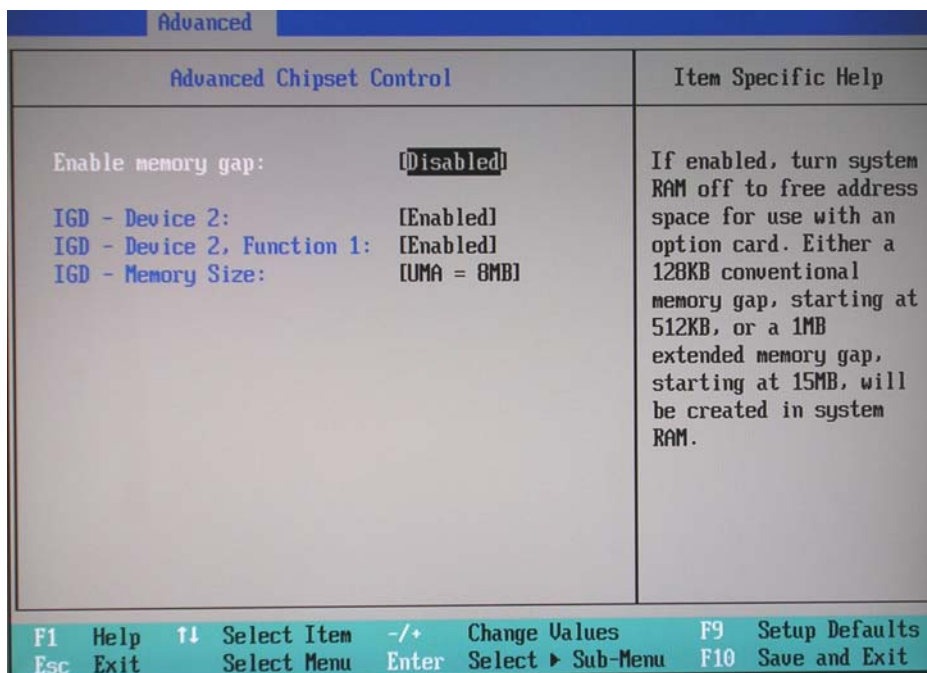

Figure 8-57 BIOS Advanced Chipset Control Parameters
Chipset Control	Figure 8-57 on page 8-70
- 2) Press <Enter> to access **Advanced Chipset Control** (Figure 8-57).
- 3.) Set the parameters for **Enable memory gap**: as shown above in Figure 8-57.